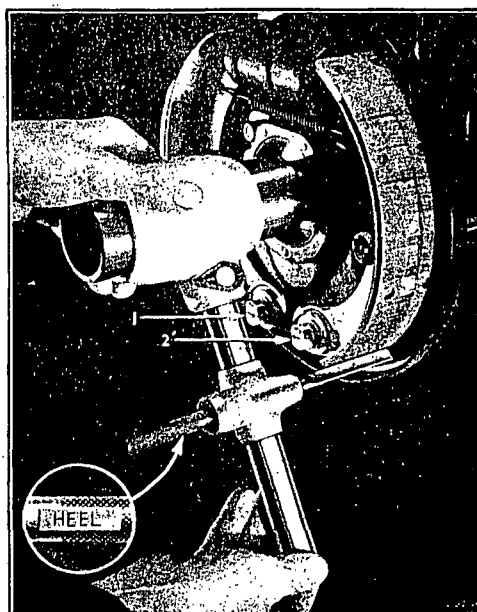
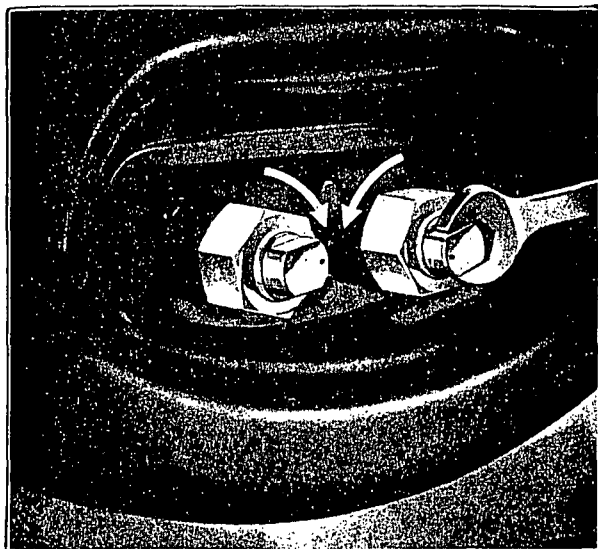

Fig. 76—Checking Brake Shoe Heel Adjustment
Fig. 77 Brake Shoe Anchor Bolt Adjustment
7. Place the gauge on the point marked "heel" and loosen the brake shoe anchor bolt nuts. On a few models an arrow is stamped on the anchor bolts as shown in Figure 76, but on all other models a center punch mark appears as shown in Figure 77. If the arrows or center punch marks on both anchor bolts are not pointing directly toward each other, turn the bolts until they do. These marks must point toward each other before starting to adjust the shoes. The anchor bolts must be turned, from that position, in the correct directions in order to decrease the clearance between the lining and the drum at the "heels" of the brake shoes. The correct procedure is to turn the right-hand anchor bolt, of the pair, anti-clockwise and the left-hand anchor bolt, of the same pair, clockwise as viewed from the side where the wrench is applied (Figures 76 and 77). When turning the anchor bolts, as directed, the heels of the brake shoes will move downward and outward toward the gauge. Turn the anchor bolts until the heels of